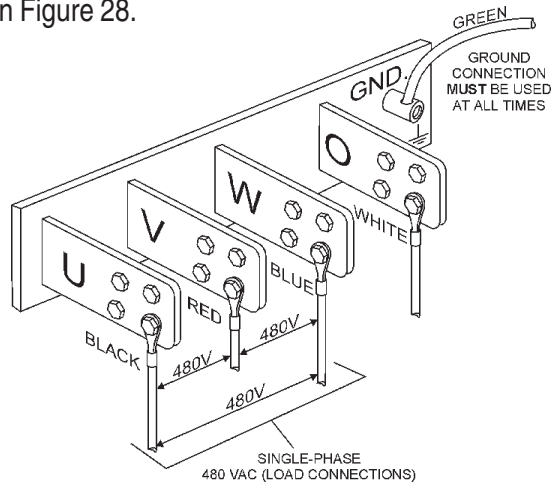

Figure 28. UVW Terminal Lugs 10-480V Connections
2. Connect the load wires to the UVW terminals as shown in Figure 28.